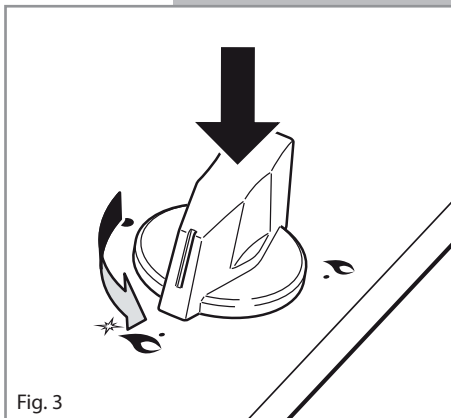

Fig. 3
- 1 – Press in the corresponding knob and turn counter-clockwise to the full flame position marked by the  symbol (fig. 3) and hold the knob in until the flame has been lit.